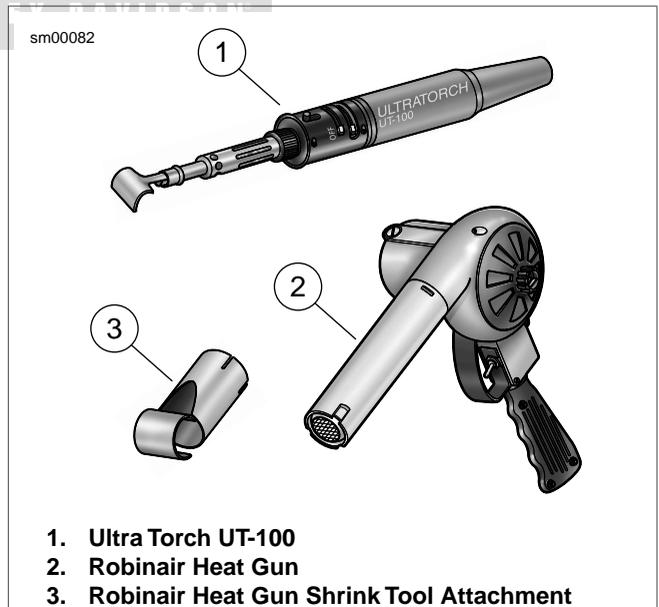

Figure 8-146. Radiant Heating Devices
- See Figure 8-146. Using the UltraTorch UT-100, Robinair Heat Gun with heatshrink attachment or other suitable radiant heating device, uniformly heat the heat-shrink tubing to insulate and seal the soldered connections. Apply heat just until the meltable sealant exudes out both ends of the tubing and it assumes a smooth cylindrical appearance.